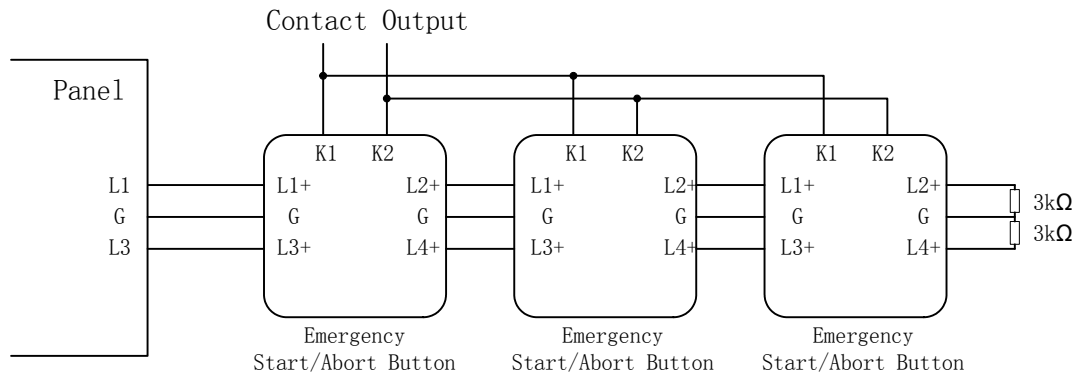

Fig. 10 Wiring method of Emergency Start/Abort Button
- c) Wiring method of gas override control is shown in Fig. 10.